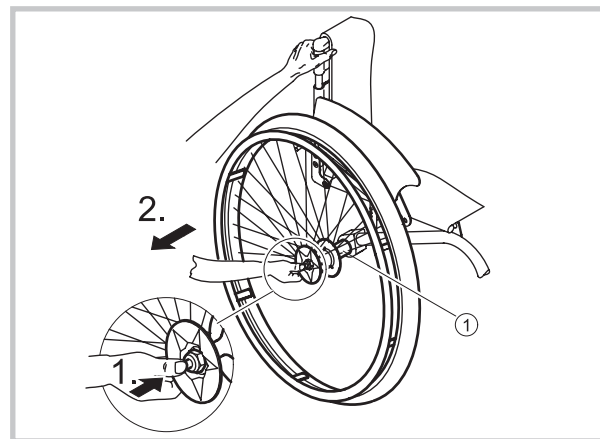

Figure 14
- With the other hand, hold the wheel at the spokes around the wheel hub (see Figure 14).
- Press the axle knob ① with your thumb and pull the wheel out of the adapter sleeve ②.
- Press the axle knob ① with your thumb, keep it pressed.
- Now insert the axle in the adapter sleeve ① of the axle tube until it comes to a rest.